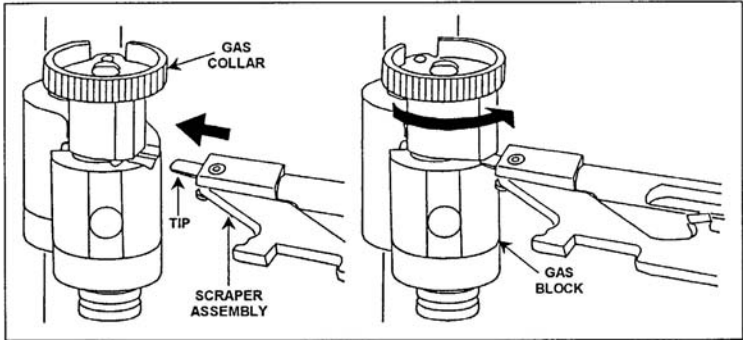

Figure 071-312-4025-9. Insertion of the scraper assembly
- (3) Turn the collar counterclockwise and remove it (figure 071-312-4025-10).